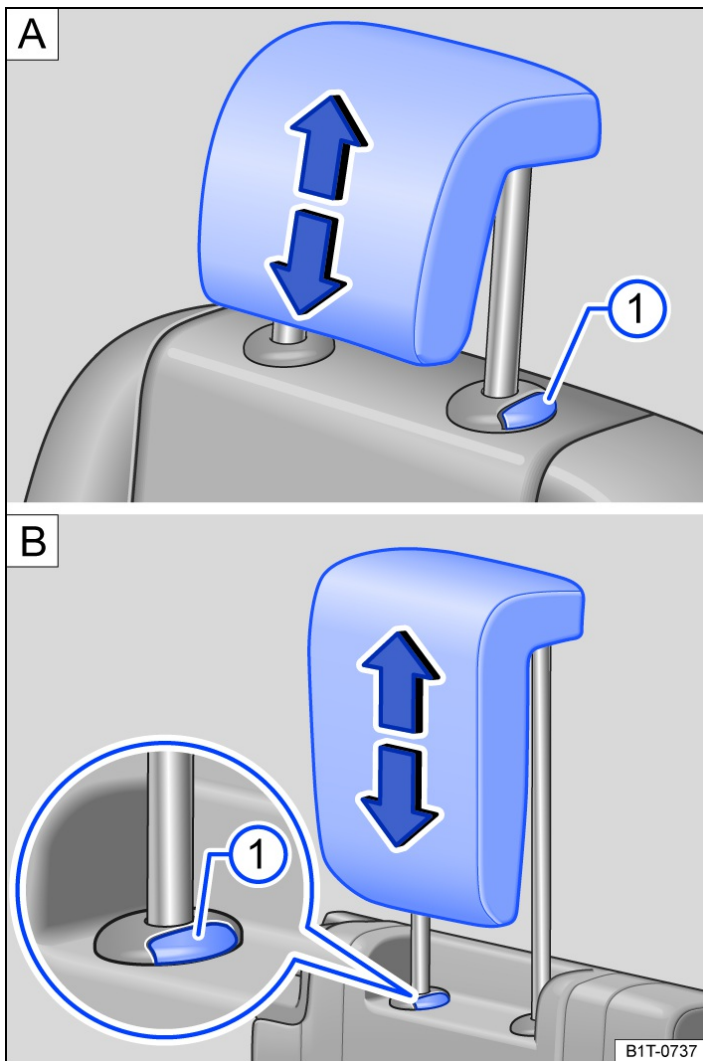

Fig. 2 Removing the rear head restraints: **A** second row of seats, **B** third row of seats.
- Pull the head restraint out fully while pressing the button → Fig. 2 ^①.